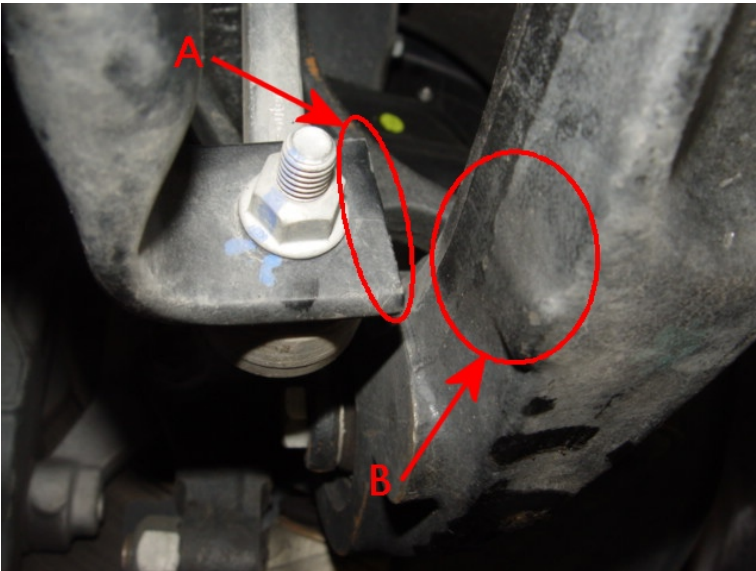

Figure 2
1. Check the end of the front anti roll bar and the front face of the lower wishbone for any contact witness marks (Figure 2) and repeat on the opposite side